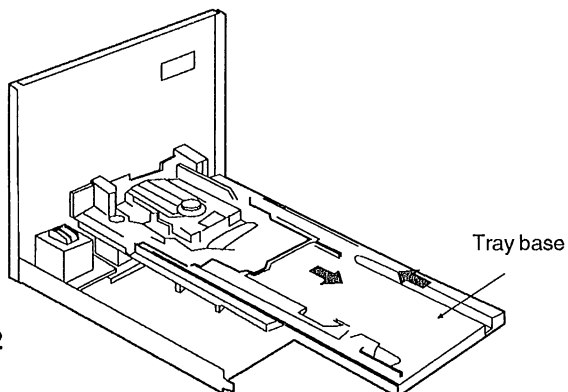

Fig. 2
3. After sliding the tray base in the direction of arrow ⑩, draw the tray base gradually in the direction of arrow ⑪. (See Fig. 2.) Slide the tray base until the tray base stops.